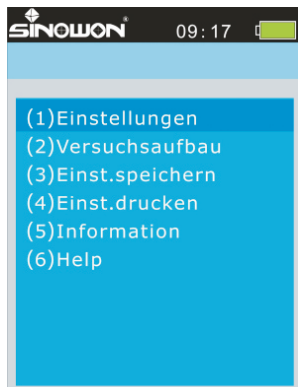
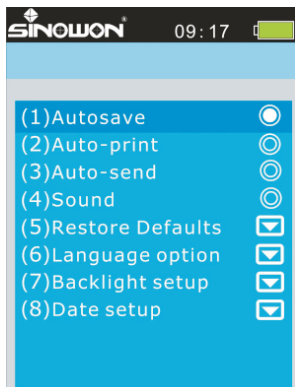
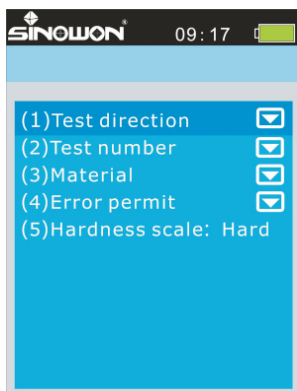
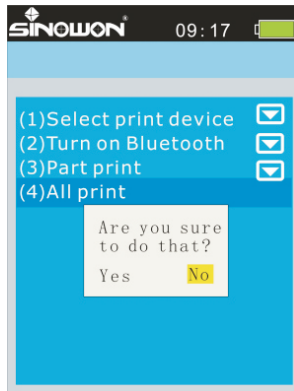

Fig 6-5-1
Fig 6-5-2
Fig 6-5-7
Fig 6-5-20
Press **【 MENU 】** to see 6 items, Fig 6-5-1:
Press [MENU] in main unit, enter system setting, Fig 6-5-1, press [↑] or [↓] switch to [1] system setting, then press [ETR] enter sub menu, fig 6-5-2.
In main interface, press **【MENU】** enter system menu, fig 6-5-1, press **【↑】** or **【↓】** switch to test setting, press **【ETR】** enter sub menu, following 5 items are included, fig 6-5-7.
In main interface, press [MENU] enter system menu, fig 6-5-1, press [↑] or [↓] switch to storage setting, press [ETR] enter sub menu, following 3 items are included, fig 6-5-13.
- **All print**——See Fig6-5-20, Press yes and [ETR] to print all test results.
In main page press **[MENU]** enter system setting, see Fig 6-5-1, switch to Version Info to see instrument info, show as Fig6-5-20.
Press **[MENU]** enter system setting page, see Fig 6-5-1, switch to Help to enter sub menu, see Fig6-5-21 to get details of operation information.